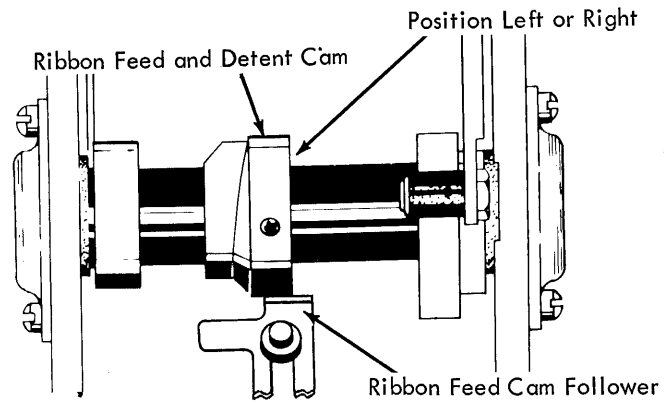
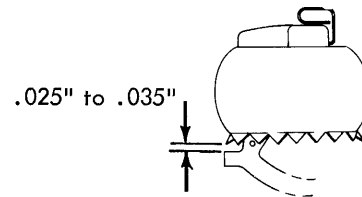

FIGURE 103. Detent Cam Adjustment
FIGURE 104. Skirt Clearance
- a. With the cycle shaft at rest and the typehead manually held in a two tilt position, adjust the ribbon feed and detent cam left or right on the print sleeve (Fig. 103) so that the rotate detent will clear the detent teeth on the typehead skirt by .025" to .035" (Fig. 104).